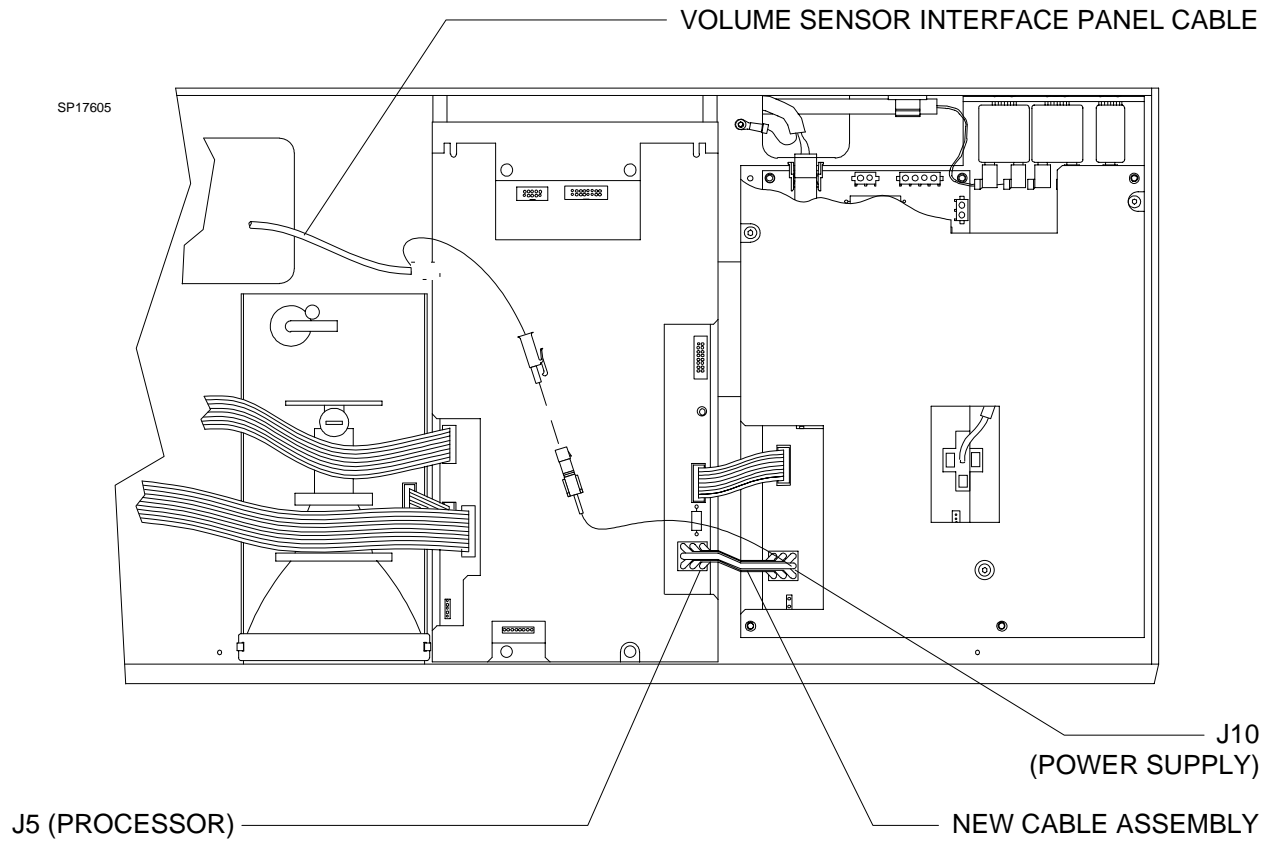

Figure 5. Power Cable and Flying Lead Connection
4. Replace the existing wire harness assembly connecting J10 on the power supply to J5 on the processor board with the new cable assembly (P/N 4114400). See Figure 5.
6. Join the flying lead from the new power supply cable to the flying lead attached to the sensor interface connector at J9 on the processor board. See Figure 5.